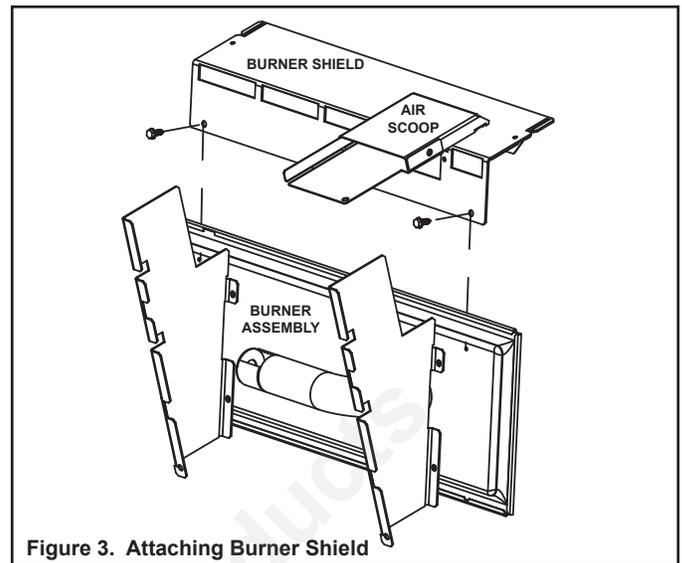
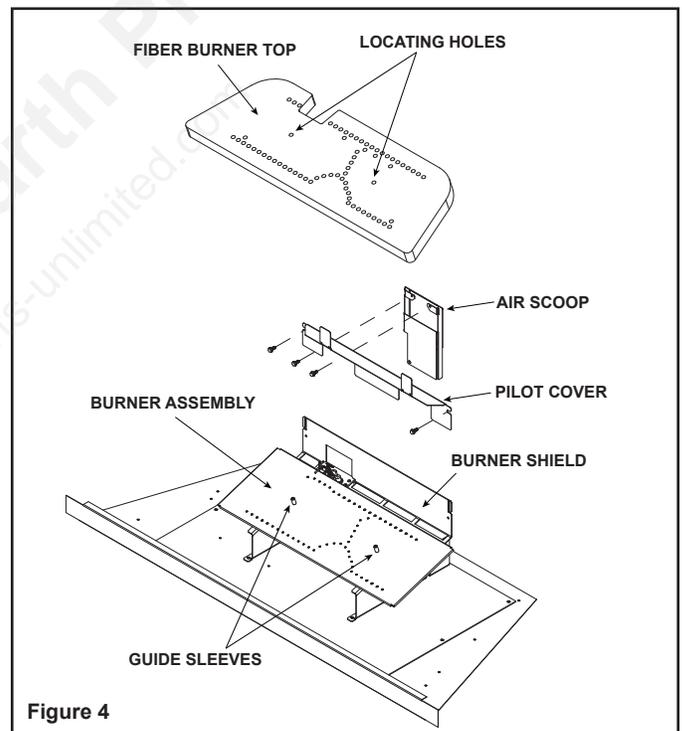
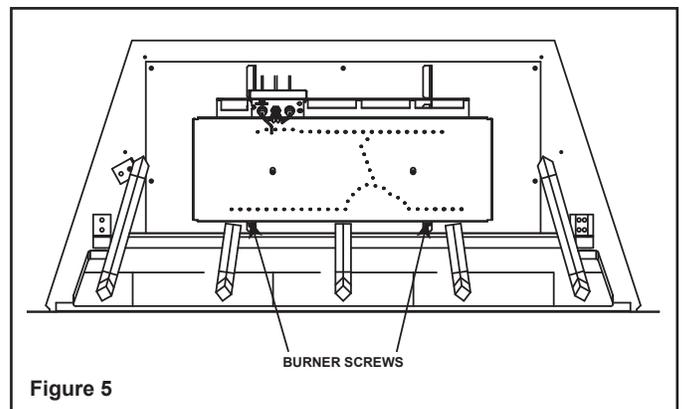

Figure 3. Attaching Burner Shield
Figure 4
Figure 5
8. Remove the air scoop by removing the two screws that attach it to the pilot cover. Remove the pilot cover by removing the 2 screws. Unscrew the pilot from the burner shield. Push the pilot towards the back of the unit. Remove the fiber burner top by carefully lifting it off the burner assembly. See Figure 4. Remove the burner assembly by removing the 2 screws located between the base refractory and the burner assembly. See Figure 5. Slide the burner to the left and remove the burner assembly.
- Attach new burner shield, pilot cover and air scoop to the burner assembly with six screws. See Figure 3 and Figure 4.
- Install new burner assembly securing it with two screws. See Figure 5. Reattach the pilot to the burner shield. Install the fiber burner top by engaging the guide sleeves with the locating holes. See Figure 4.